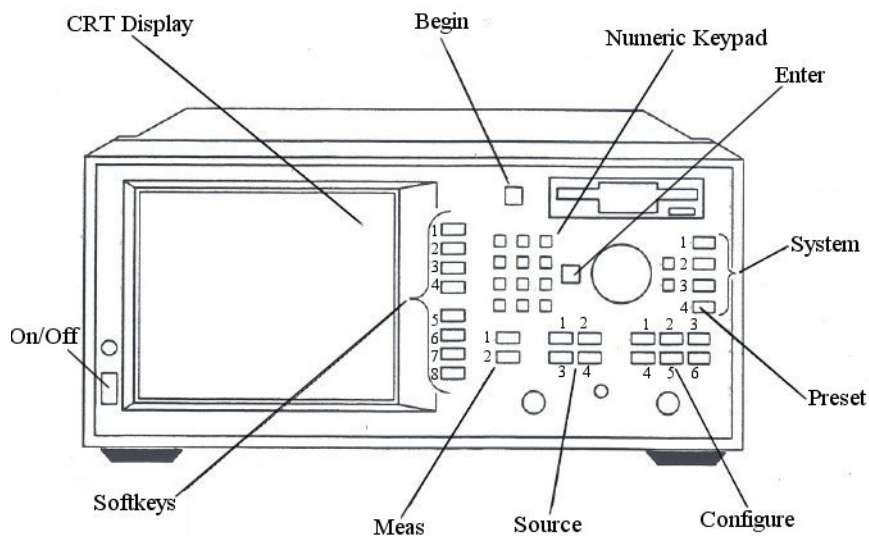

Figure 1.
1. Function selection is controlled by the *Measure*, *Source*, *Configure* and *System* buttons on the VNA front panel (see Figure 1).
(Refer to Figure 1 for the numbering)